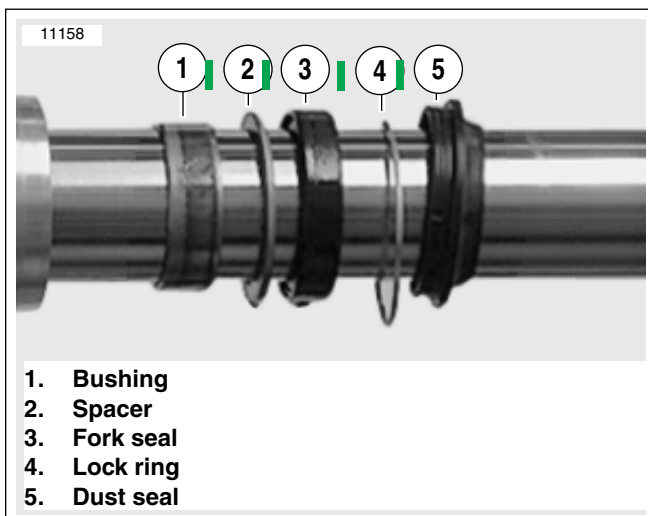

Figure 2-122. Seal Components
- See Figure 2-122. Once fork tube and slider are separated, remove dust seal, lock ring, fork seal, spacer, bushing and chrome dust cover (not shown) from fork slider.